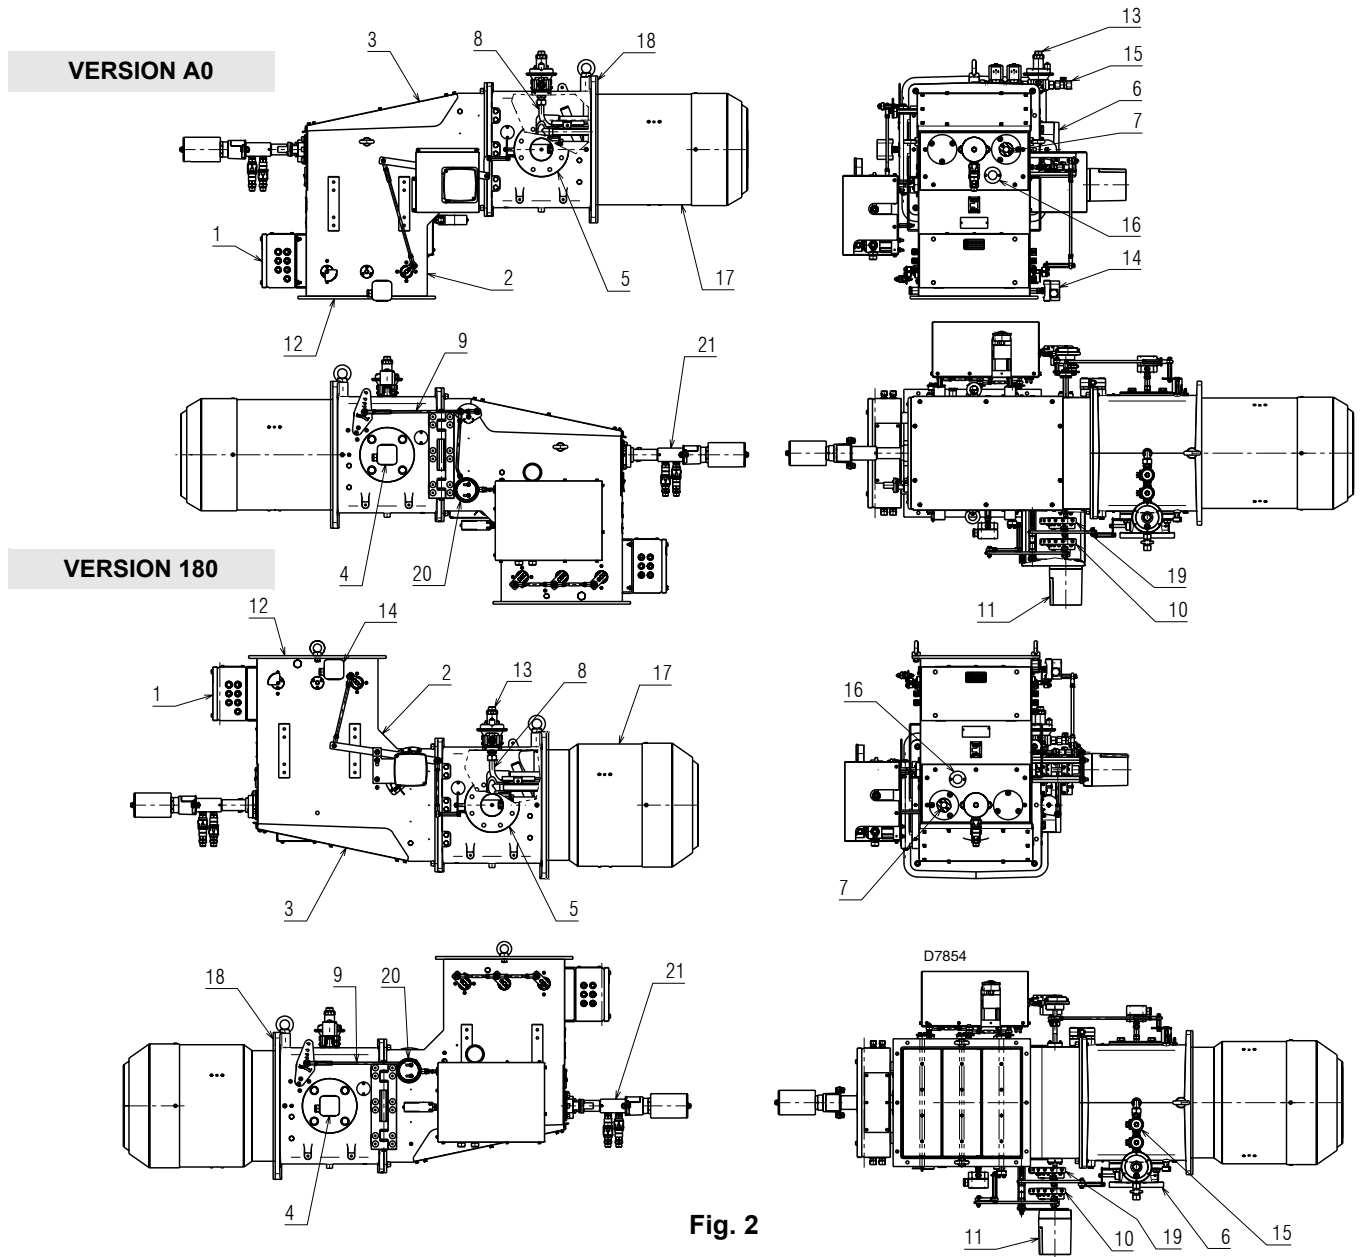

Fig. 2
The burner is connected to the gas train by the flange attachment on the gas butterfly valve (5)(Fig. 2).